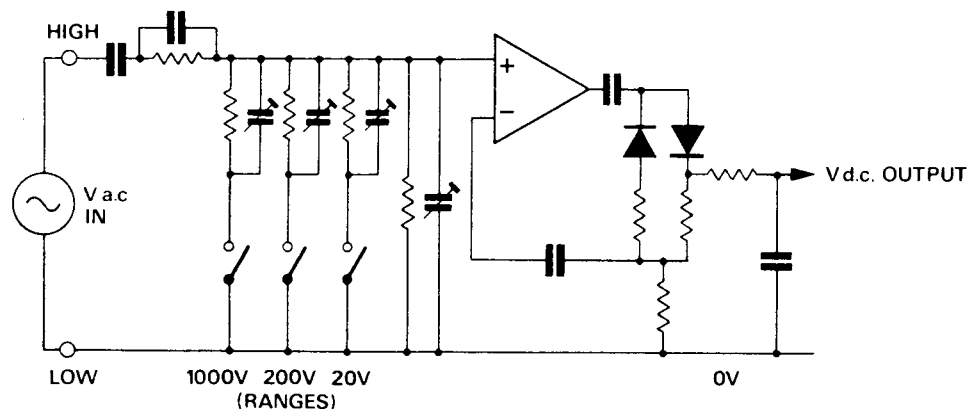

Fig. 3 A.C.-D.C. converter
4.14 AC-DC CONVERTOR (Figs. 3, 7)